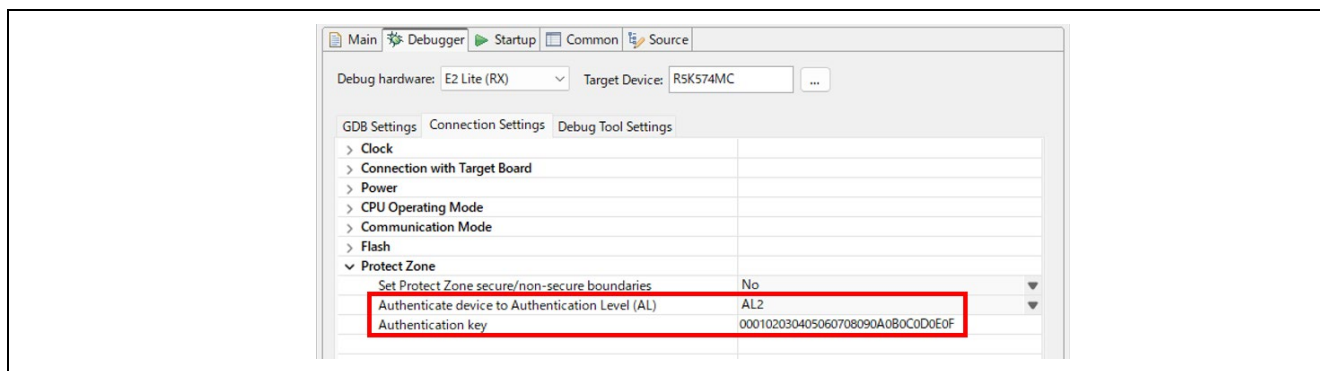

Figure 4-11 Debugging of the Secure Application and Transition to AL2
Figure 4-11 shows an example of setting a debug configuration by using AL2_KEY which is used as an example in this application note. Specify AL2 for **Authenticate device to Authentication Level (AL)** and the AL2 plaintext key for **Authentication Key** under **Protect Zone** on the **Debugger -> Connection Settings** tab.